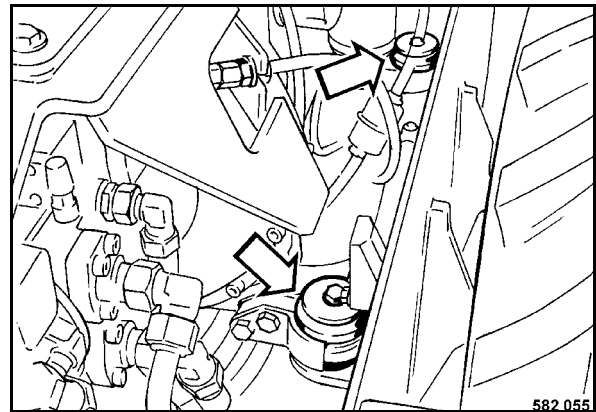

Fig. 93
- Check the condition and tight fit of the engine pillow blocks (Fig. 93).